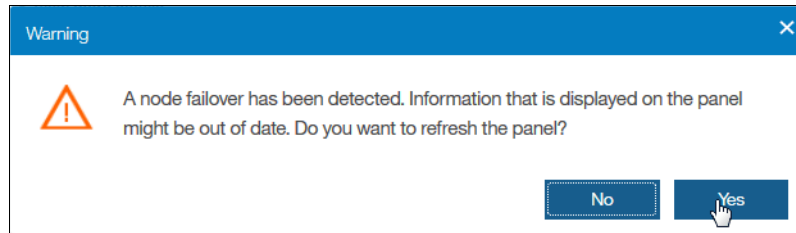

Figure 12-55 Configuration node failover warning
14. After you remove the configuration node from the cluster, you are asked whether you want to refresh the panel, as shown in Figure 12-55 on page 663. Select **Yes**.